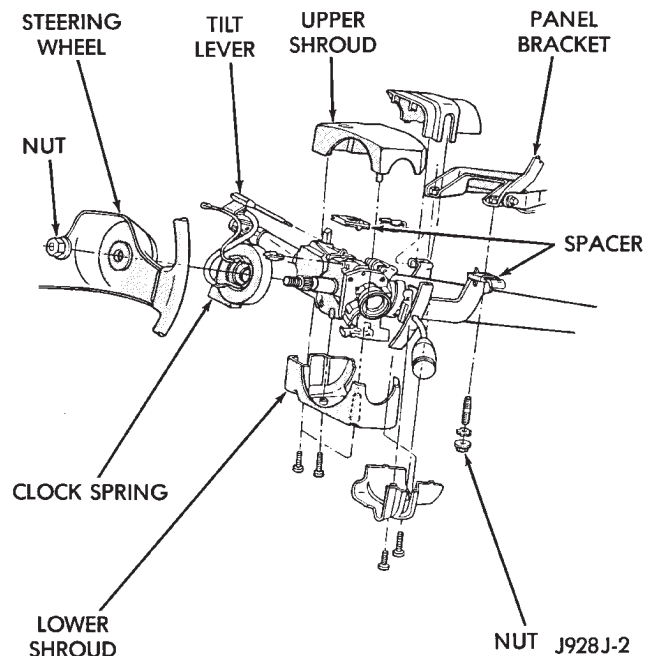
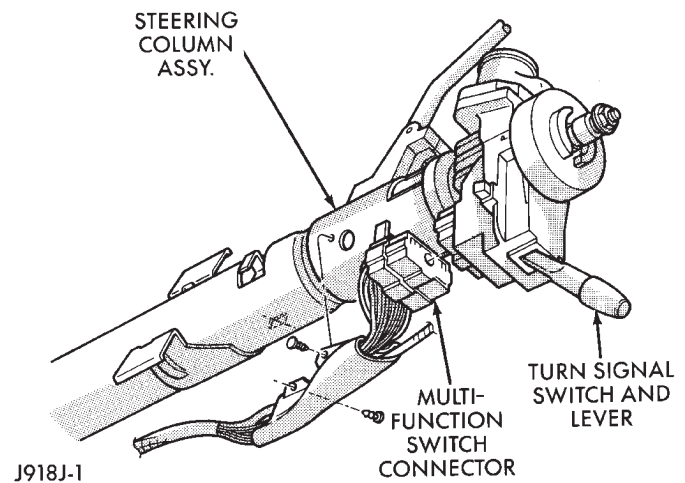

Fig. 5 Steering Column Shrouds Remove/Install
Fig. 6 Multi-Function Switch Connector
- (4) Pull knee blocker down to disengage slide tabs and remove.
- (5) Remove both upper and lower shrouds from column (Fig. 5).
- (6) Remove lower fixed column shroud.
- (7) Loosen steering column upper bracket nuts. Do not remove nuts.
- (8) Move upper fixed column shroud to gain access to rear of multi-function switch (Fig. 6).
- (9) Remove multi-function switch tamper proof mounting screws (tamper proof torx bit Snap On TTXR20B2 or equivalent required).
- (10) Gently pull switch away from column. Loosen connector screw. The screw will remain in the connector.
- (11) Remove wiring connector from multi-function switch.